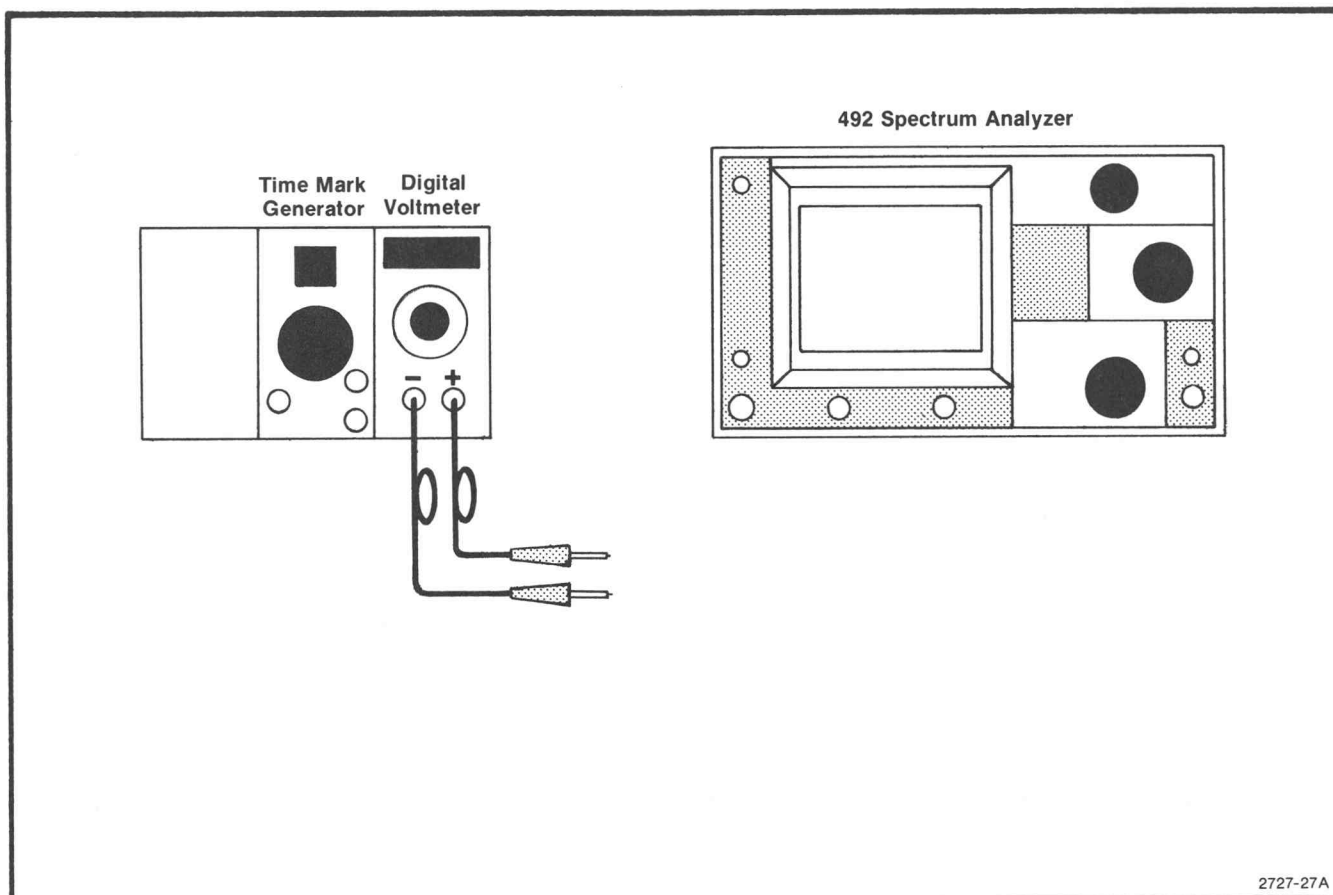

Fig. 3-30. Test equipment setup for calibrating sweep ramp for the 1st LO Driver.
1) Test equipment setup is shown in Fig. 3-30. Set the front panel controls as follows:
a. Test equipment setup is shown in Fig. 3-30. Switch POWER off, remove the Center Frequency Control board, and install the board on an extender, then switch POWER on. Set the FREQUENCY to 5 MHz, FREQ SPAN/DIV to 100 kHz, REF LEVEL to 0 dBm and MIN RF ATTEN to 30 dB.